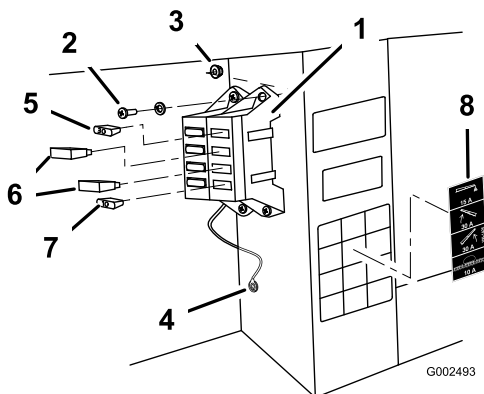

Figure 8
5. Connect the black ground wire to the existing 1/4 inch bolt on the interior side of the vehicle frame, using the star washer (Figure 8).
7. Install the fuse block and harness to the frame along side the existing fuse block, using the two screws (#10-24 x 3/4 inch) and two locknuts (#10-24) as shown in Figure 8.
- Install the 15 amp fuse to the foam marker fuse slot (Figure 8).
- Install the two 30 amp thermal breakers to the left and right boom lift fuse slots (Figure 8).
- Install the 10 amp fuse to the spray system power fuse slot (Figure 8).